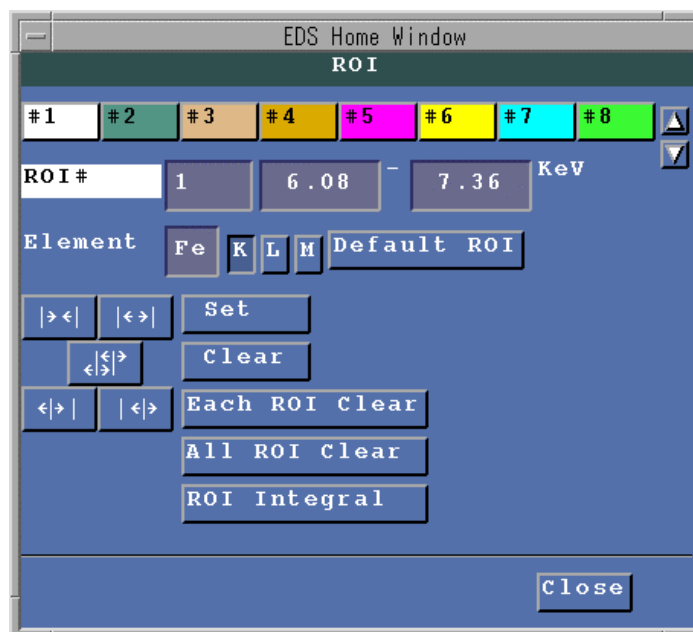

Fig. 18 ROI setting window
- ◆ Select **Spectra ROI** from the **Operation** menu in the EDS Home Window. The ROI setting window opens as shown in Fig. 18, allowing you to set or clear a ROI.